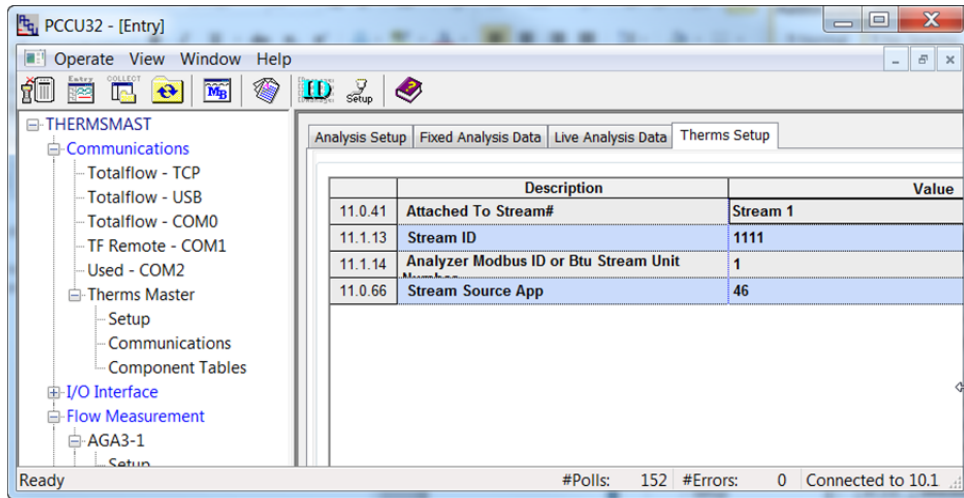

Figure 55. Associate analysis stream with measurement tube
8) Click Re-read to verify parameters were saved correctly (see Figure 55).